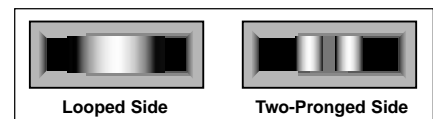

Fig. 2. Close-up view of shorting jumper.
5. Each shorting jumper contains a wire inside. One end of the shorting jumper exposes the looped part of the wire, and the other exposes the two-pronged part of the wire (see Figure 2).